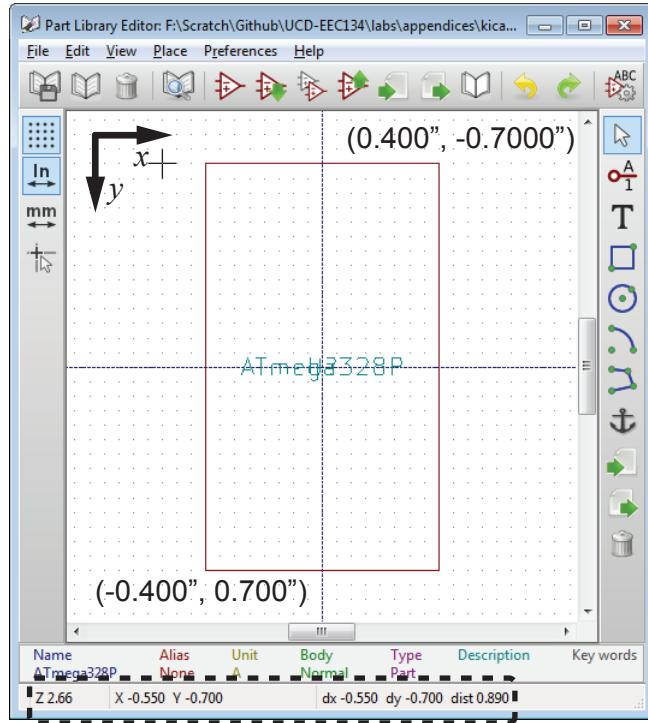

Figure 11: Drawing a rectangle in the library editor main window with the help of the built-in coordinate system.
6. Click the “Add graphic rectangle to the component body” button , and use the mouse cursor to draw a rectangle from ( $x = -0.400"$ ,  $y = 0.700"$ ) to ( $0.400"$ ,  $-0.700"$ ) (Fig. 11). The current position of the cursor is displayed at the bottom of the main window. Notice that the positive direction of the  $y$ —axis points downward.